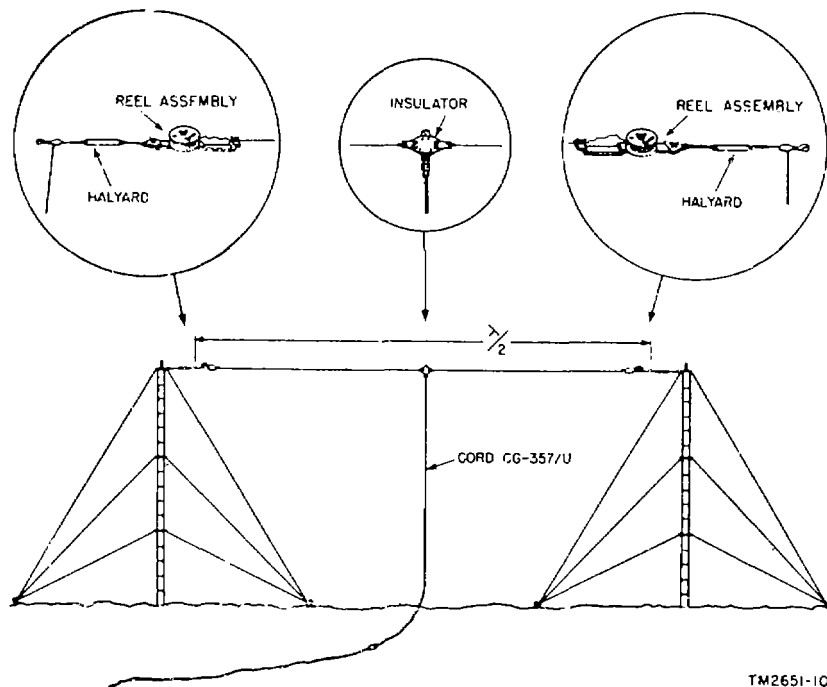

Figure 9. Center-fed Hertz (doublet) antenna, using Antenna Group AN/GRA-4.
- (a) If the station is concealed but a clearing exists within 300 feet, the center-fed Hertz (doublet) antenna (fig. 9) can be used with two mast assemblies as supports. The coaxial cable which serves as a feed should be routed at a 90° angle to the antenna and should be kept to minimum length.